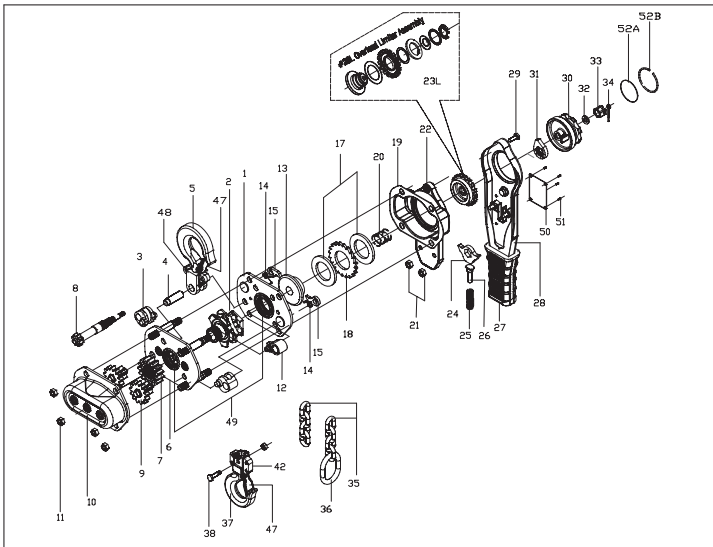

fig.8A
11. Refer to fig. 8A & 8B, product exploded view for part details.
4. During the assembly of the brake side, respect the brake part order as shown in the exploded view (See fig.8A & 8B).